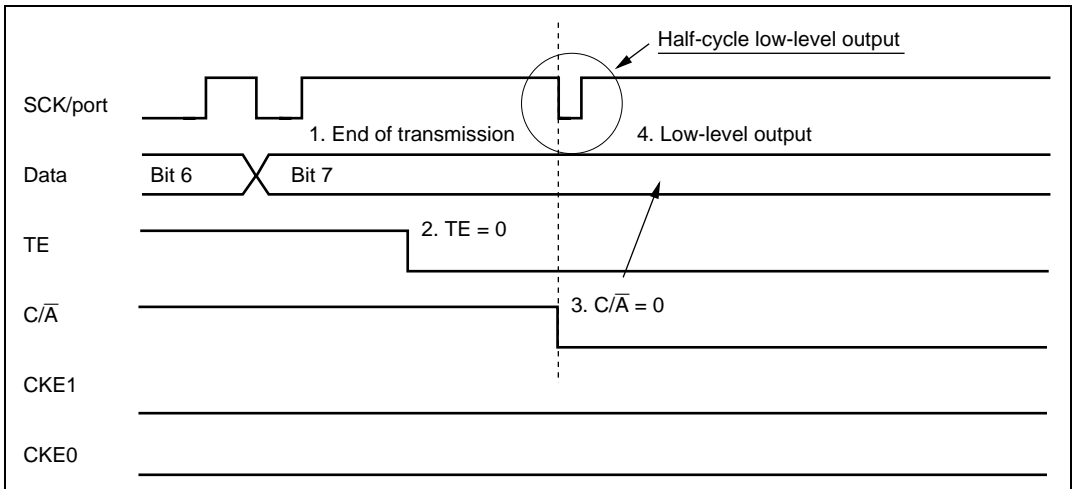

Figure 16.29 Operation when Switching from SCK Pin Function to Port Pin Function
4. Occurrence of low-level output (see figure 16.29)